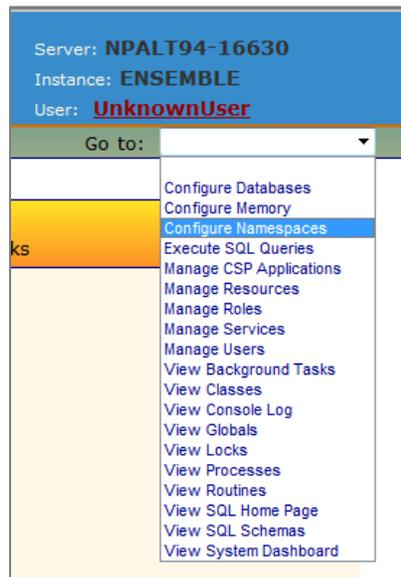

Figure 5-1: **Go to** list
1. From Ensemble Cube, open the **System Management Portal** shown in Figure 5-1: